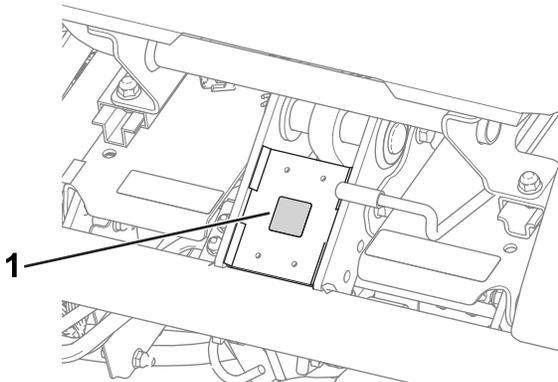

Figure 11
- Apply the CE mark decal to the frame under the front of the seat (Figure 11).